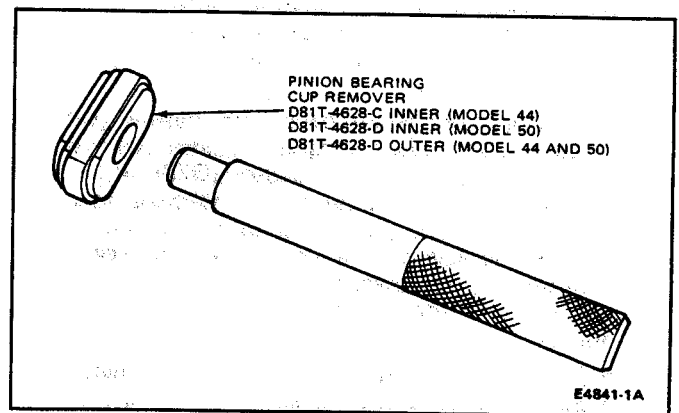

FIG. 21 Bearing Cup Removal
11. Remove the inner pinion bearing cup and baffle using Pinion Bearing Cup Remover, D81T-4628-C (Model 44 axles) or D81T-4628-D (Model 50 axles) and Driver Handle, D81L-4000-A (Fig. 21). Drive the bearing cup out of the bore.
12. Turn the nose of the carrier down and remove the outer pinion bearing cup. Drive the cup from the carrier using Pinion Bearing Cup Remover D81T-4628-D (Model 44 and 50 axles) and Driver Handle D81L-4000-A (Fig. 21).